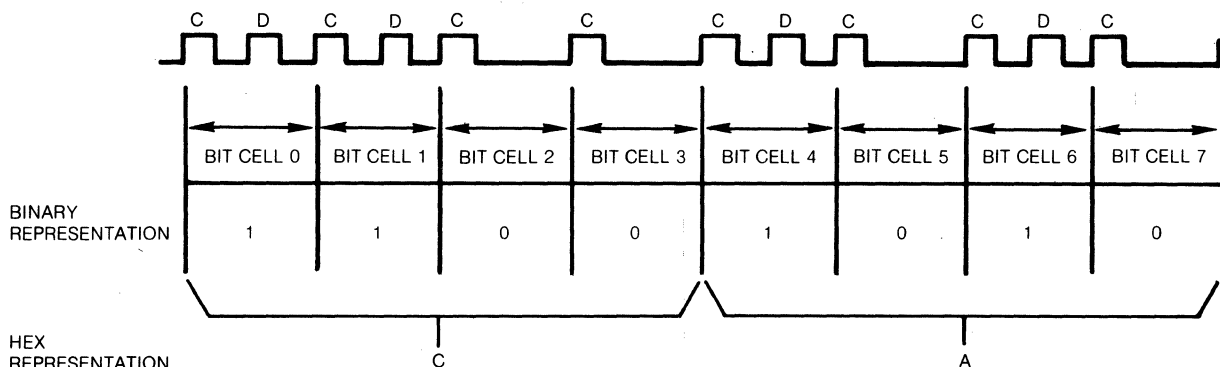

FIGURE 25. BYTE
1.4.1 The SA850/851 drive uses the double-frequency (2F) horizontal non return to zero (NRZI) method of recording. Double frequency is the term given to the recording system that inserts a clock bit at the beginning of each bit cell time thereby doubling the frequency of recorded bits. This clock bit, as well as the data bit, are provided by the using system. See Figure 25.